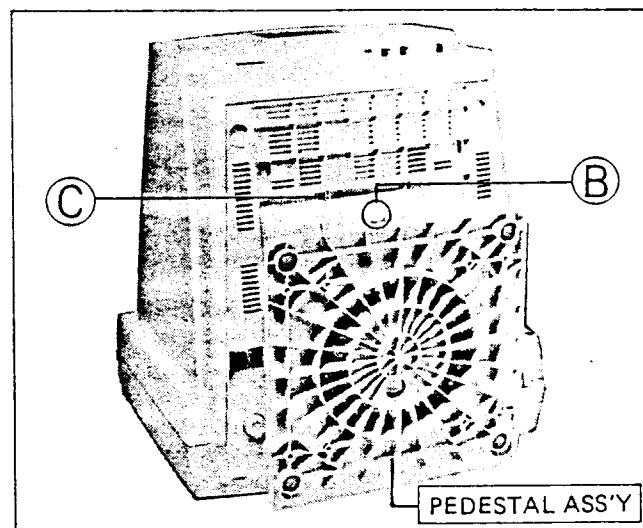

Fig. 2
1. Pull the Lock Knob of PEDESTAL ASS'Y marked **(B)** shown in Fig. 2, and remove the PEDESTAL ASS'Y.